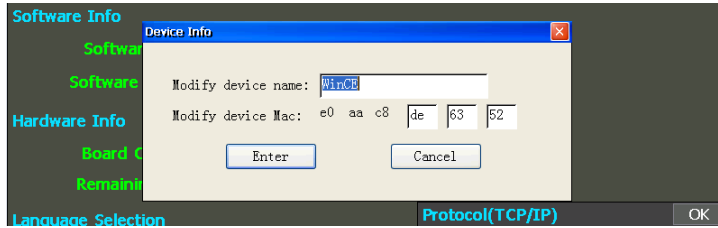

Fig. 3-65 Device Info Modification Interface
- 4) Enter the password to access the device info modification interface, as shown in Fig. 3-65.